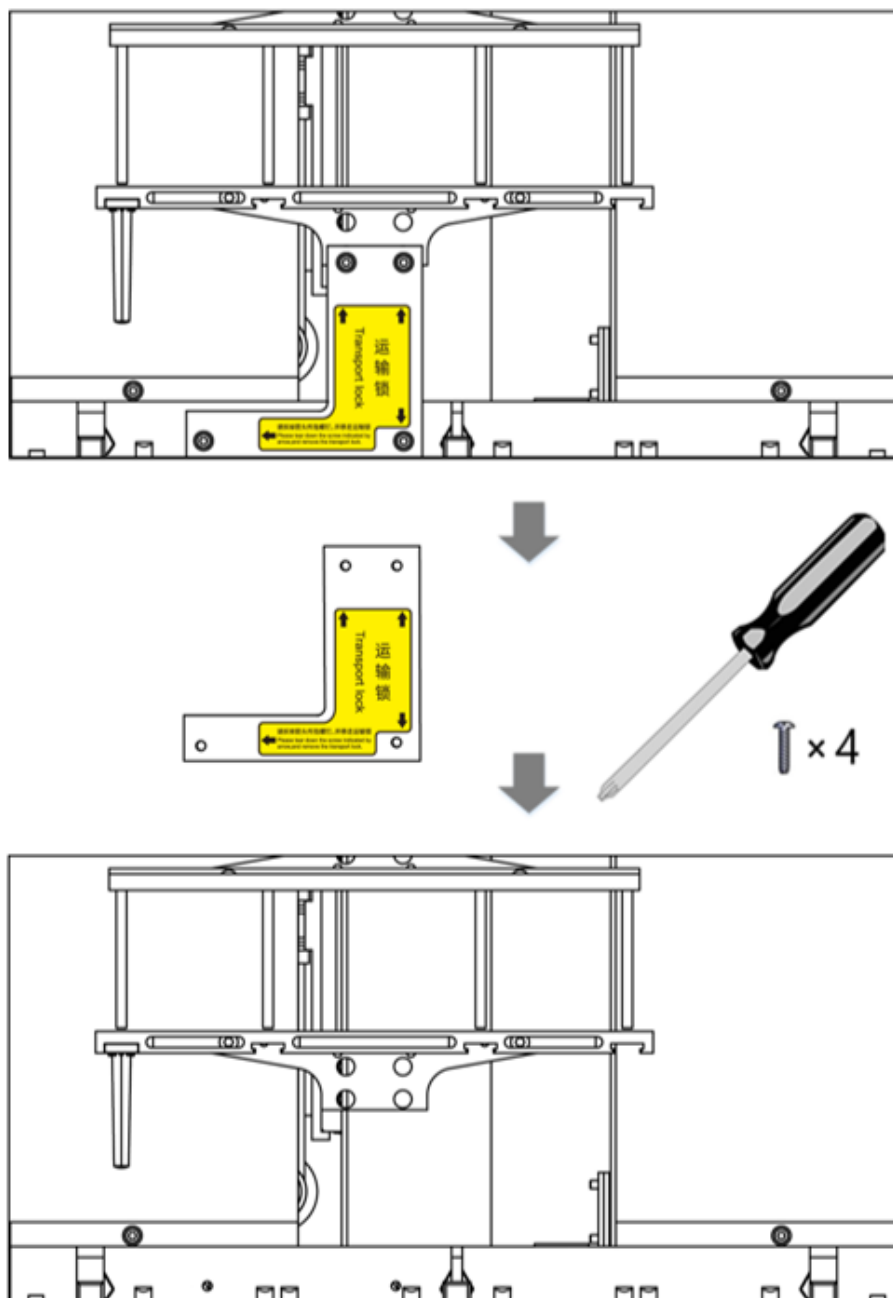

Figure 3-1 Transport Lock
- 2) Open the experiment cabin door after placing the instrument. Remove and reserve the transport lock according to the labeled warning instruction, as shown in the figure 3-1. In order to protect the instrument from damages, please fix the transport lock before moving or transporting it again (please refer to ‘3.5 Instrument Transportation’). Please confirm the transport lock could be removed normally.